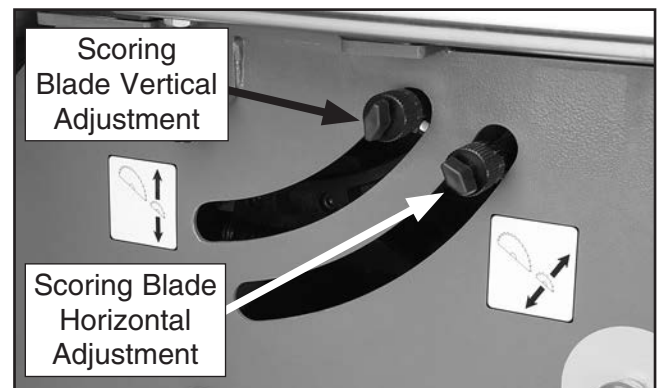

Figure 81. Scoring blade adjustment controls.
2. Place a straightedge across the body of the main blade (not the teeth) and align the body of the scoring blade to the main blade, by turning the horizontal adjustment control shown in **Figure 81**.
2. Adjust the height of the scoring blade, by turning the vertical adjustment control (see **Figure 81**), until the exposed portion equals the kerf thickness of the main blade.